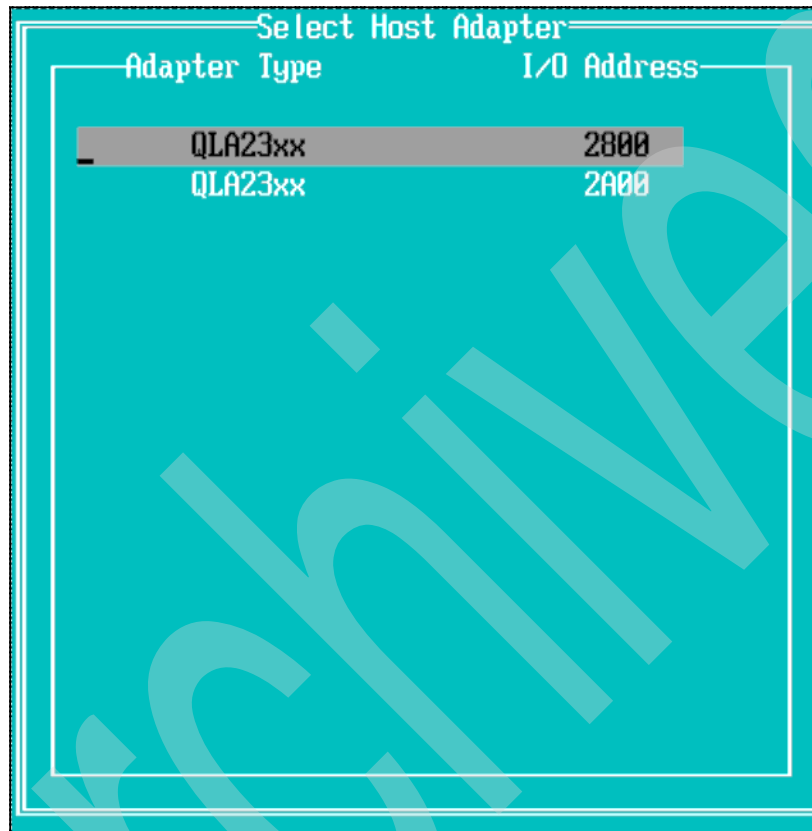
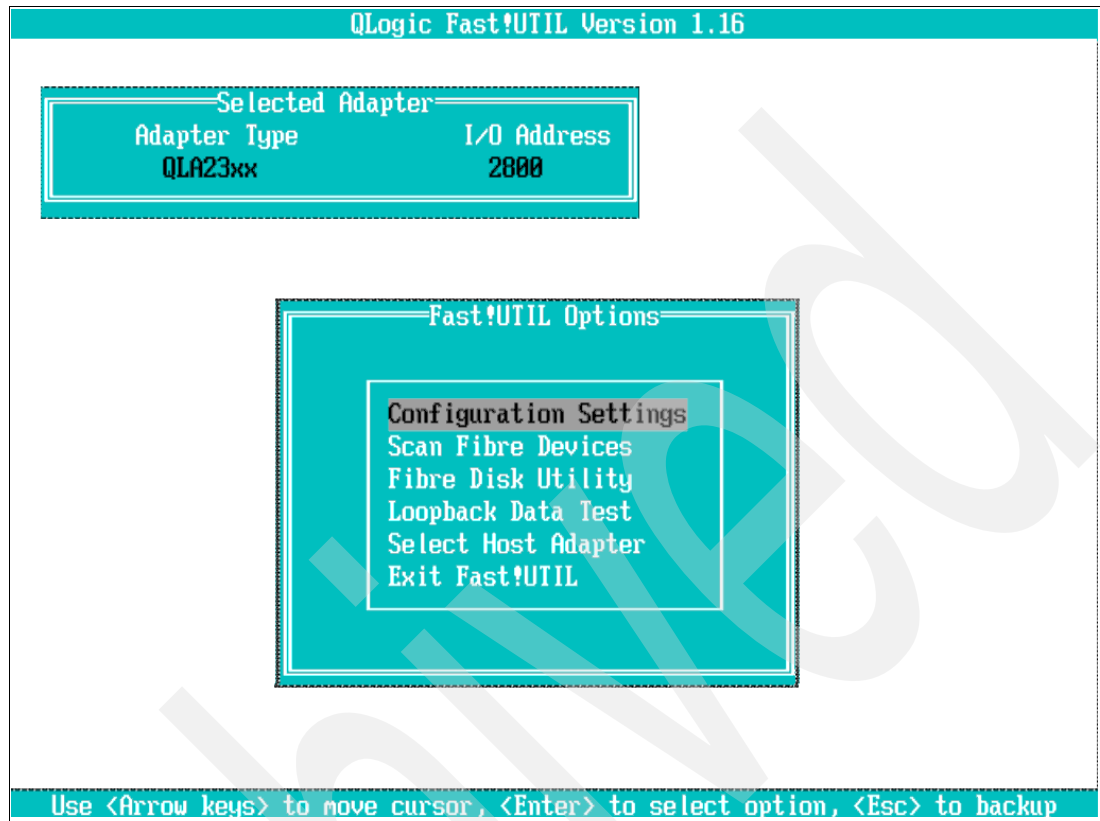

Figure 27-2 Select the FC HBA adapter
Figure 27-3 Fast!UTIL Options
1. To enter Fast!UTIL, power the host server on and press Ctrl+Q when prompted. The first step is HBA adapter selection. as shown in Figure 27-2.
2. Select the first HBA adapter and press Enter. The Fast!UTIL Options menu displays (Figure 27-3). Select **Configuration Settings** and press Enter.
- Switch to the second HBA adapter. Return to the Fast!UTIL Options menu (Figure 27-3 on page 674) and choose Select **Host Adapter**. You see a second QLE2340 HBA adapter displayed, as shown in Figure 27-2 on page 673. Select the second line and press Enter.